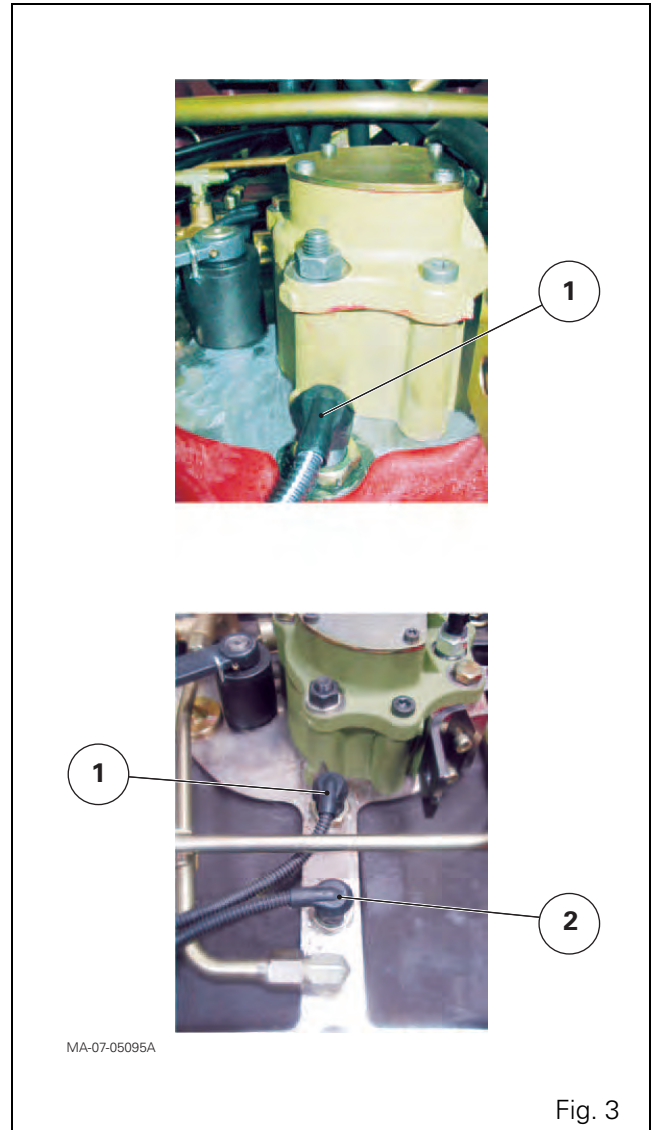

Fig. 3
- the sensor (1) (tractors fitted with GTA1040 transmission) (Fig. 3);
- the sensors (1) and (2) (tractors fitted with GTA1540 transmission) (Fig. 3).